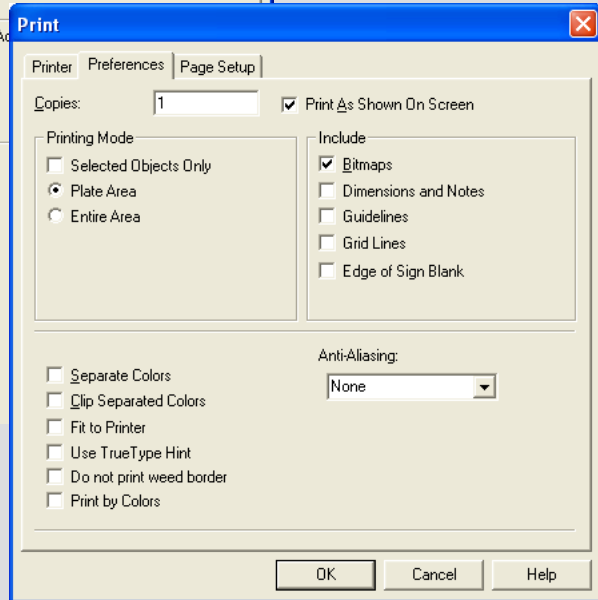

Fig. 22 - The **Preferences** tab is used to choose what workspace elements should be output.
4. Click the **Preferences** tab (Fig. 22).